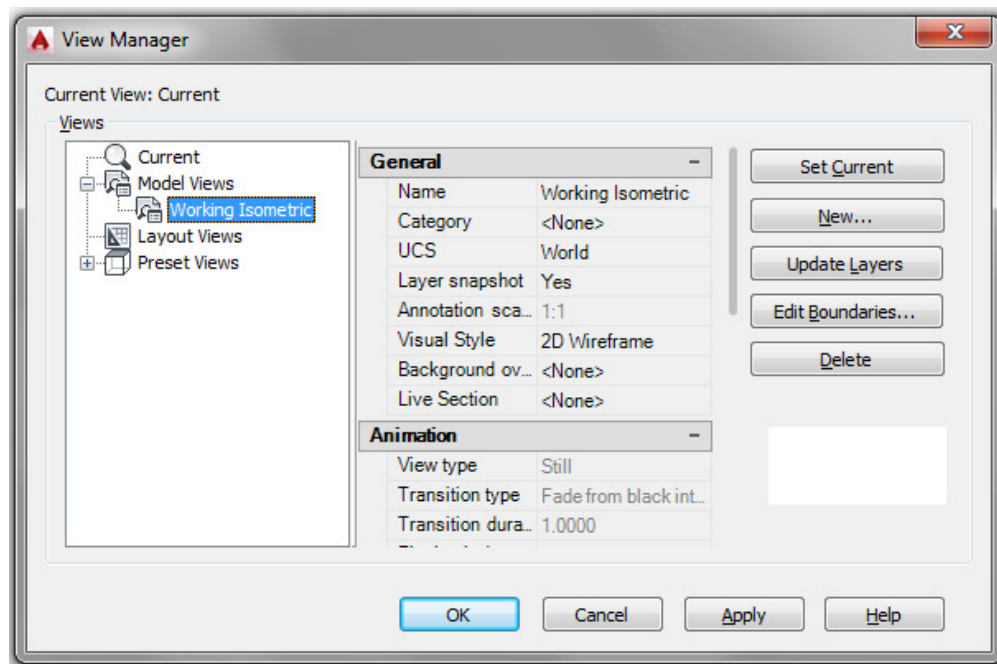

Figure Step 14
Step 14 Using the VIEW command, save the current view with the name: Working Isometric. (Figure Step 14)